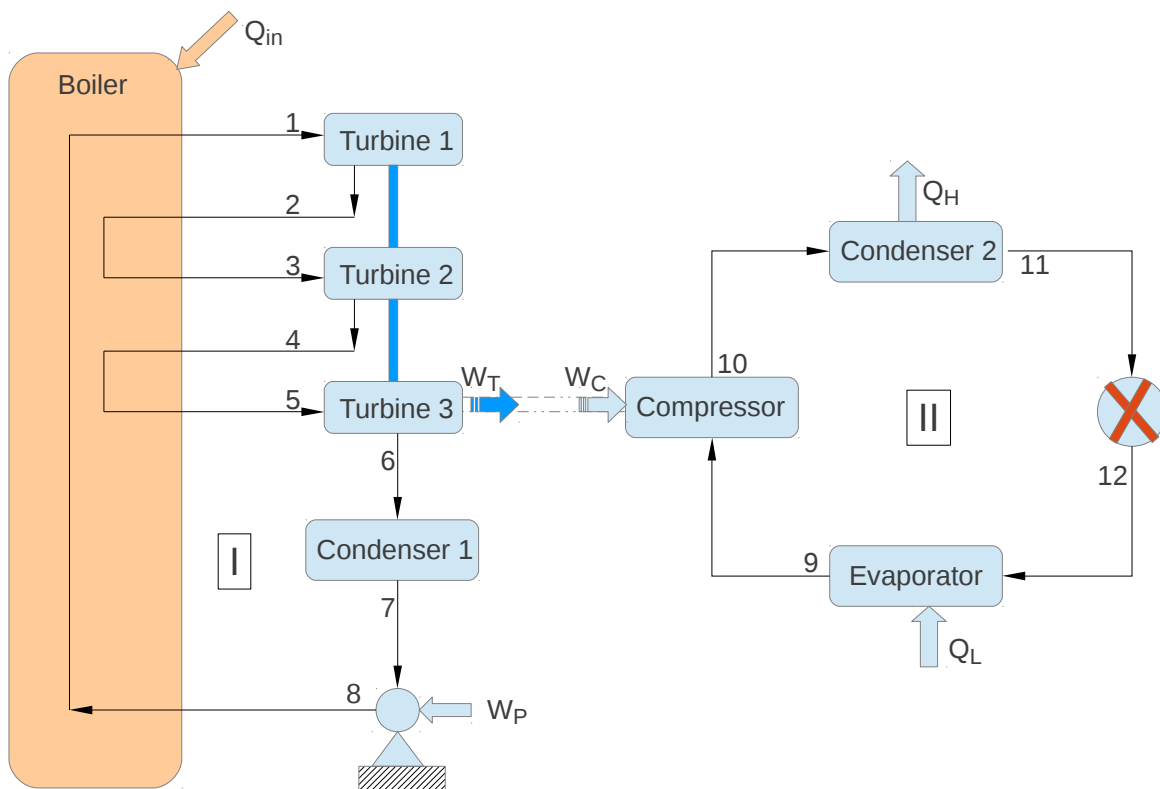

Figure 1: Coupled reheat Rankine steam and reversed-Rankine refrigeration units.
A Thermal engineer is hired to design coupled steam-power and refrigeration plants (Fig. 1). The thermal plant (I) operates 100 kg/h steam in 3-turbines reheat Rankine cycle with initial conditions and efficiencies described in Tables 1 and 2. 0.1% of the power generated by the set of turbines in I is used in the compressor of the refrigeration unit II. The refrigeration system operates with a working fluid, \mathcal{X} .